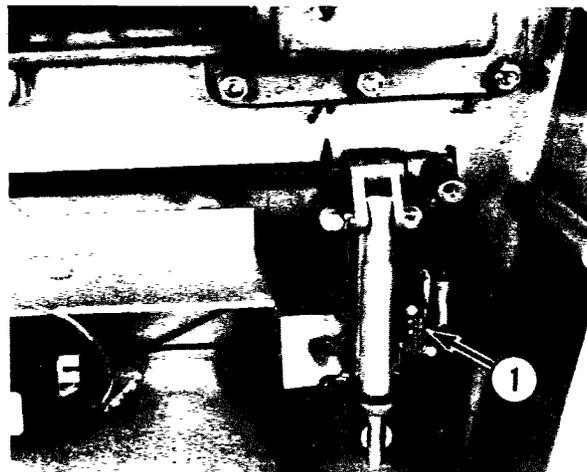

Fig. 2-43
D. On/Off switch removal (1, Fig. 2-43).
- (1) Follow switch rod removal steps A. (1) through A. (5).
- (2) Disconnect the leads to the switch.
- (3) Remove two screws and remove the switch.
- (4) Reassemble in the reverse order of removal. See Section (Adjustments) for switch adjustment. Wire switch according to the wiring diagram on the machine. (Wires are branded).
- (5) Test for correct interlock operation.